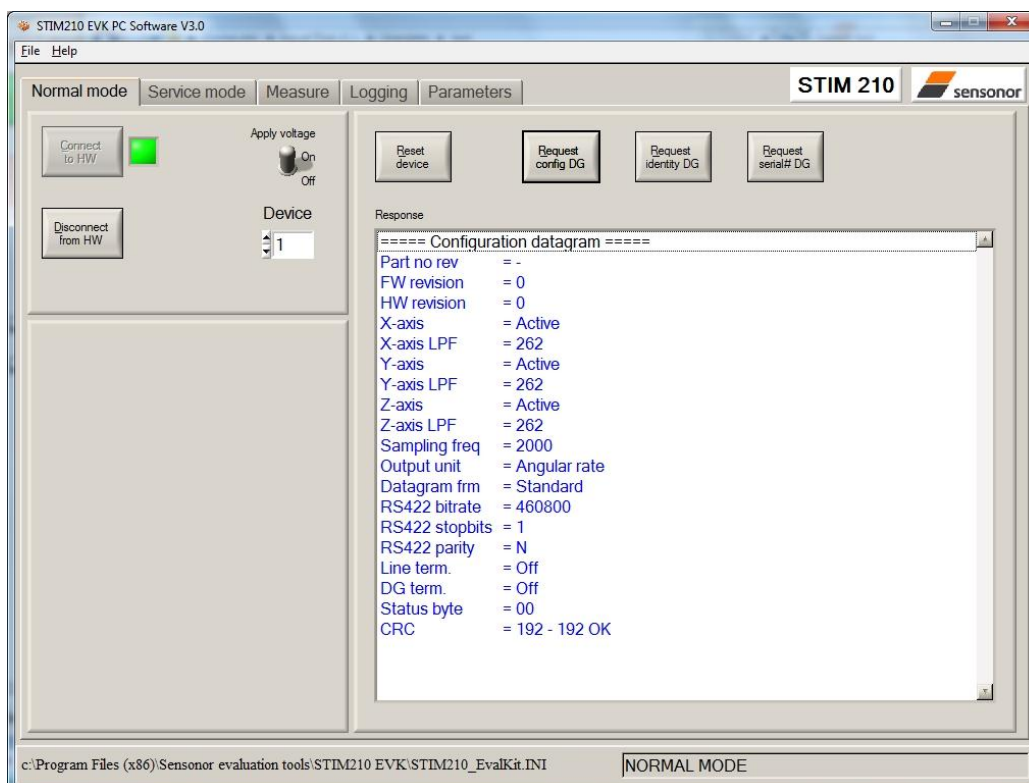

Figure 18: Result of sending 'Request config DG' to the gyro module
- Verify the connection to module by clicking on the 'Request config DG' button. An example of such a result is shown in Figure 18. (The kit is now ready for use !)